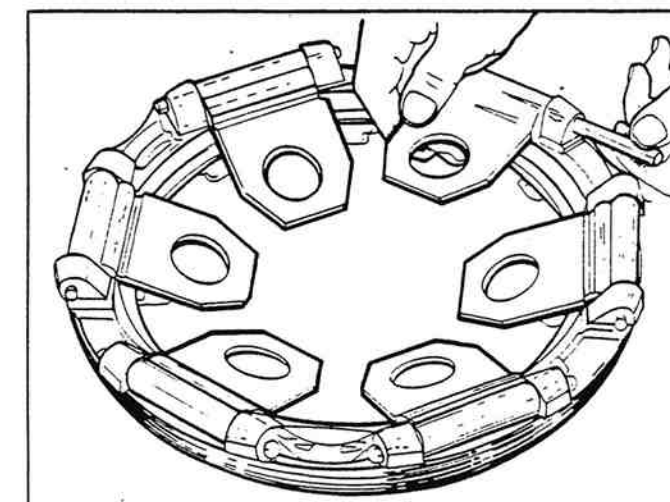

Figure 5-13. Remove Retainer Clips, Pins and Levers.
14. To complete disassembly, remove the retainer clip from pivot pins, and remove pins and levers (figure 5-13).